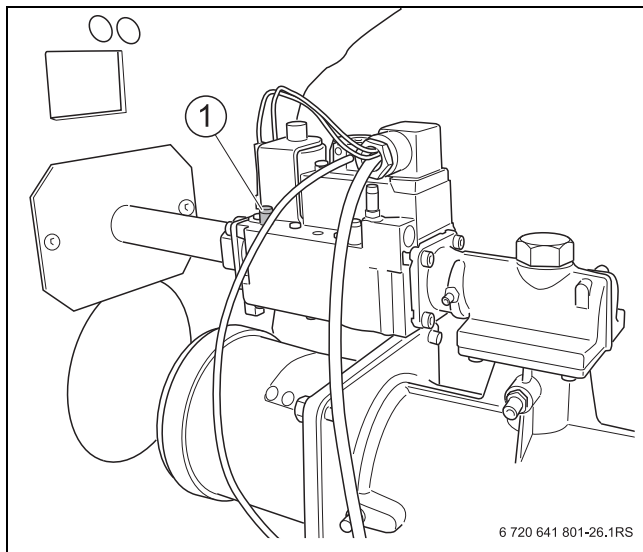

Fig. 44 Measuring the gas supply pressure (boiler size 90/120 kW)
- ▶ Release the locking screw of the pressure test port for the gas supply pressure and venting (→ Fig. 44, 45, 46 [1]) by 2 turns.